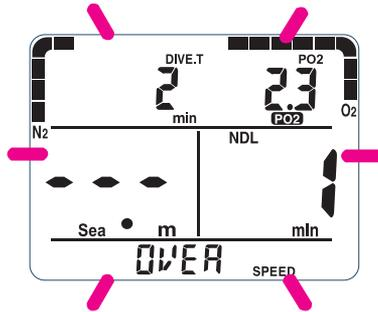

Figure 33
**Out of Measurement range warning:** If the computer enters this warning mode, all of the display segments will blink as shown below. The sound or vibrating alarm will operate twice for three seconds. The warning is recorded in the log. (Fig. 33)